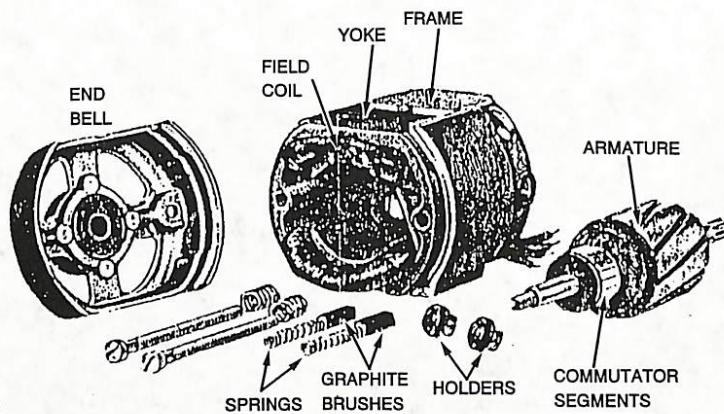

Figure 2.
**Brush assembly.** The brush assembly consists of: the brushes, springs, and their holders. Figure 1 shows where the brushes are located. Figure 2 indicates the different parts of the brush assembly.
**End frame.** The end frame, or endbell, is the part of the motor opposite the commutator. It supports the bearing and protects the electrical and rotating parts inside the motor. Sometimes the end frame is designed to be part of the unit driven by the motor. Figure 2 shows the end frame.